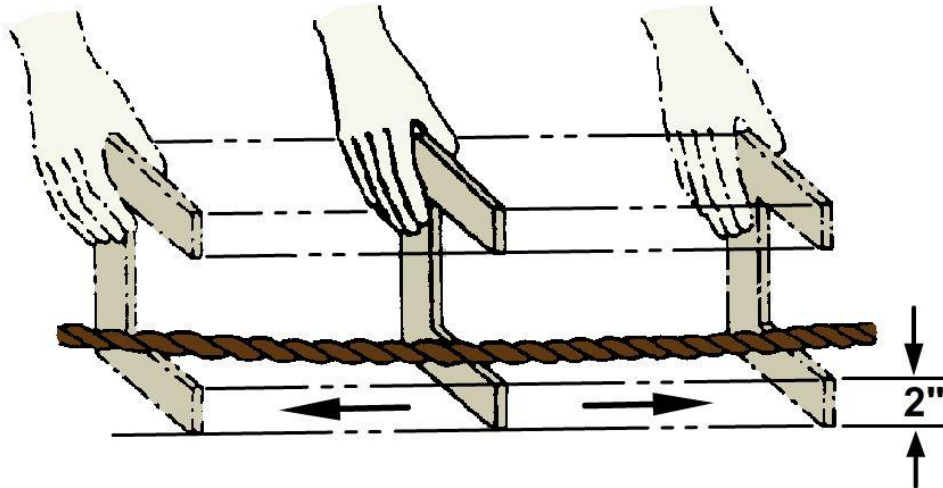

Figure 9-7 — Checking for minimum clearance.
- b. Using the deck cable height gauge, slide the gauge from side to side (about 18 inches to either side of the midpoint) to check for minimum clearance (*Figure 9-7*). Clean the mid span area under the cable, as necessary, to allow a smooth side-to-side sliding of the gauge.